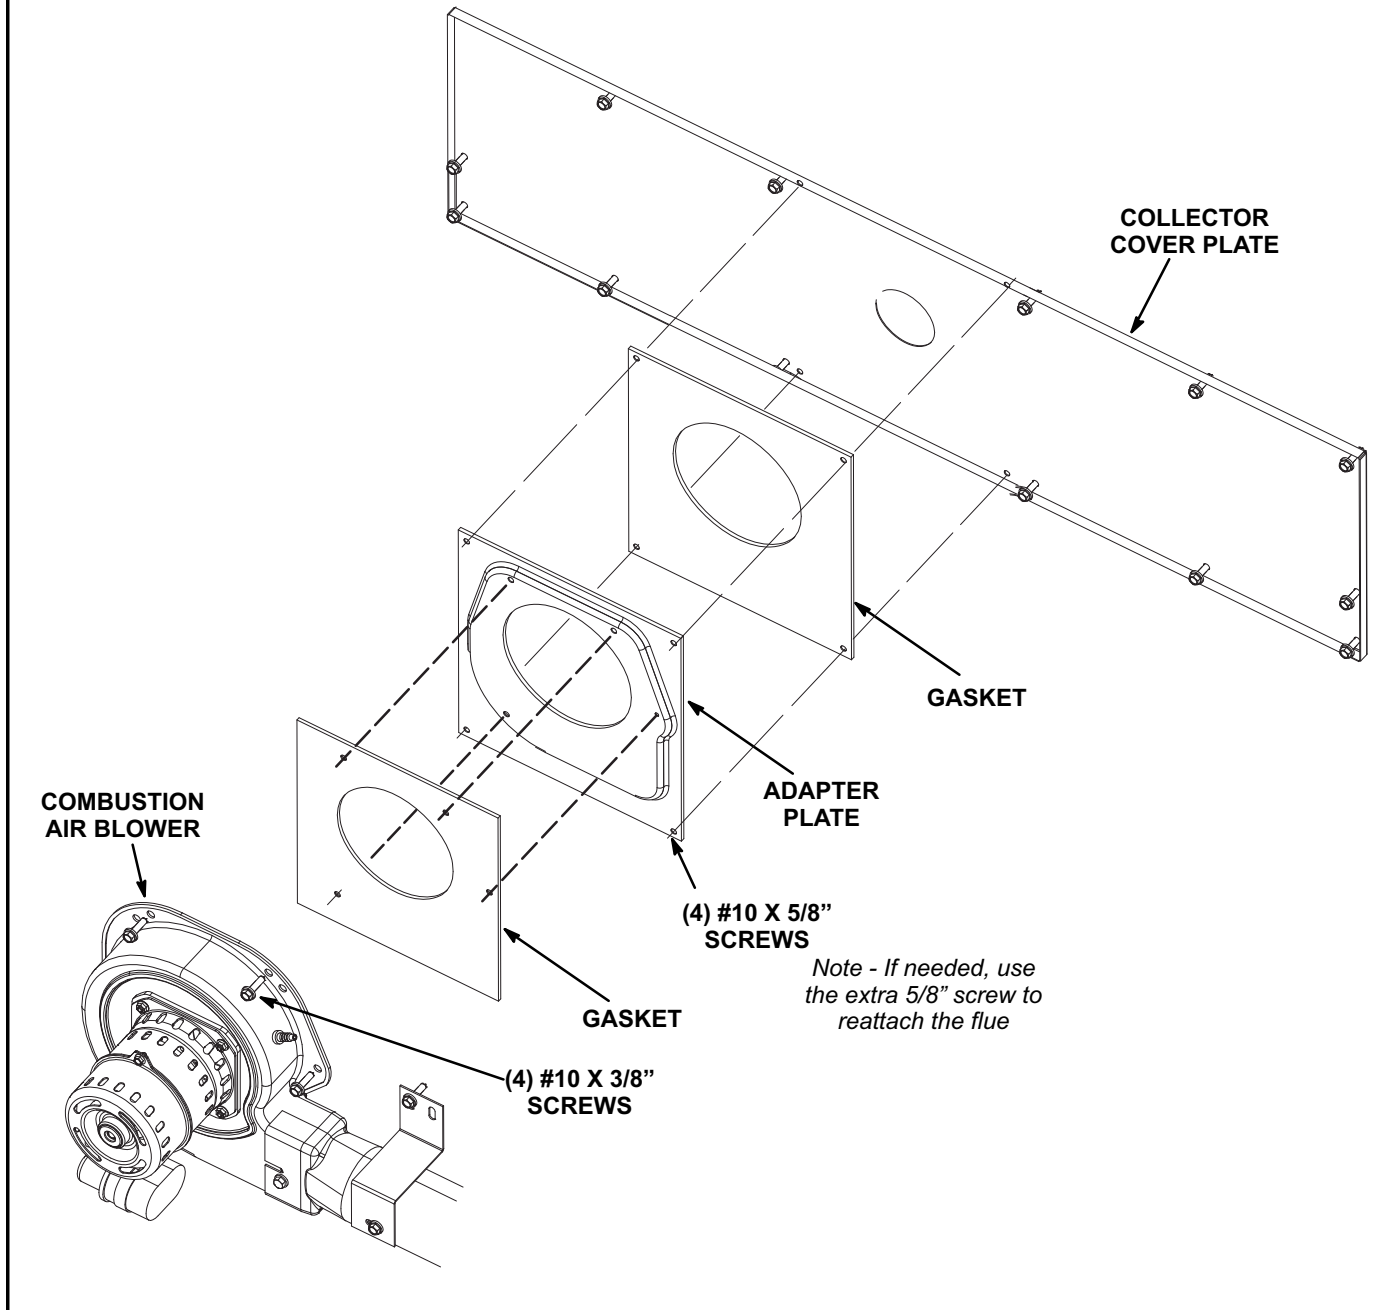

FIGURE 1
- 4- Install replacement combustion air blower using parts provided in this kit. See figure 1.